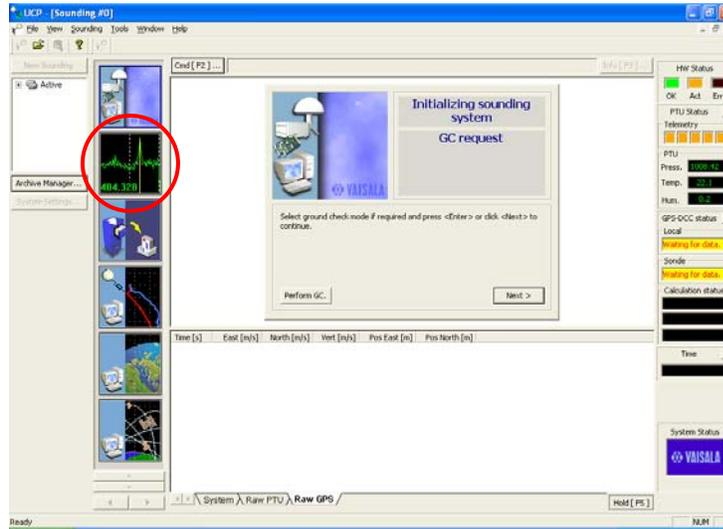
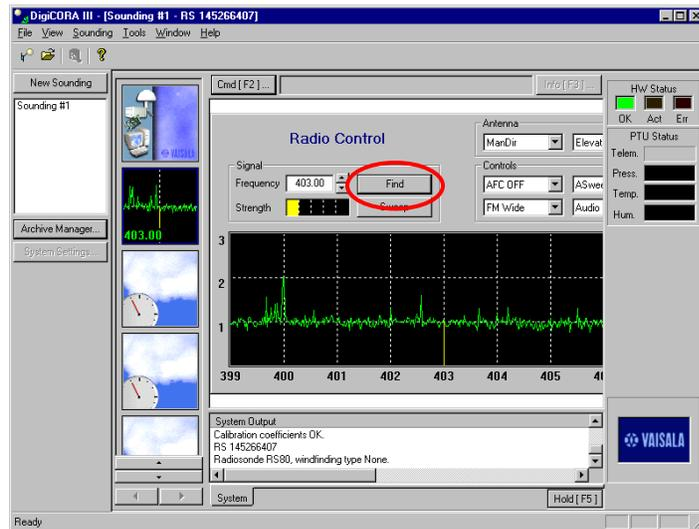

Figure 9
Figure 10
- 11) The DigiCORA system should find the radio signal from the RS92. To ensure this, click on the spectrum window (see Figure 9) and then click on “Find” (see Figure 10) so that the DigiCORA III can receive the signal.